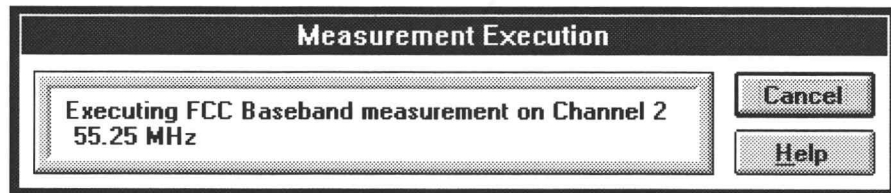

Figure 4-18.
2. Select the first three channels for an FCC Baseband Measurement. From the Measure menu, chose Current Selection. A dialog box similar to Figure 4-18 appears.